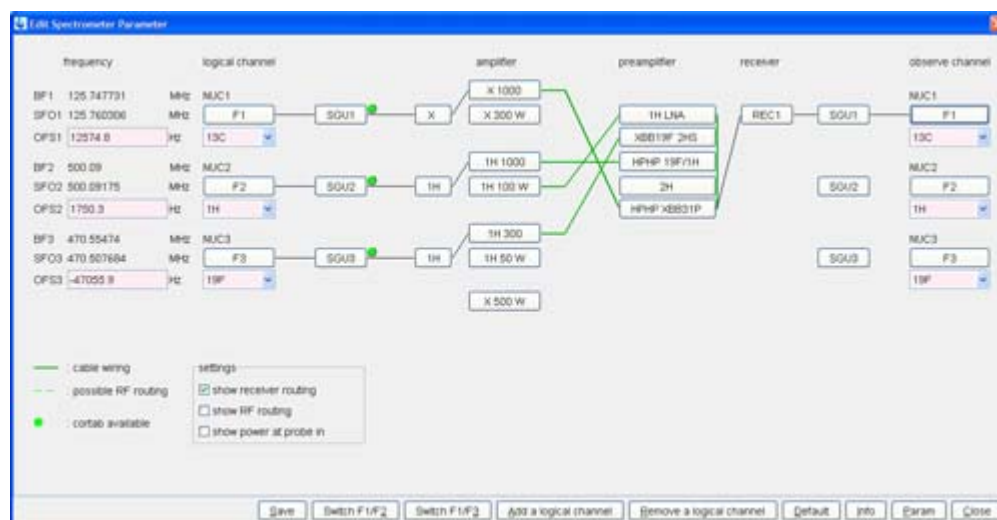

Figure 3.1 HFC Experiment Setup Example with Routing Table and Preamplifier Selection.
1. Use either the parameter set **F19HPDEC**, or check the appropriate item line for the *fhdp* experiment in the ATP panel experiment list (see Figure 3.1).